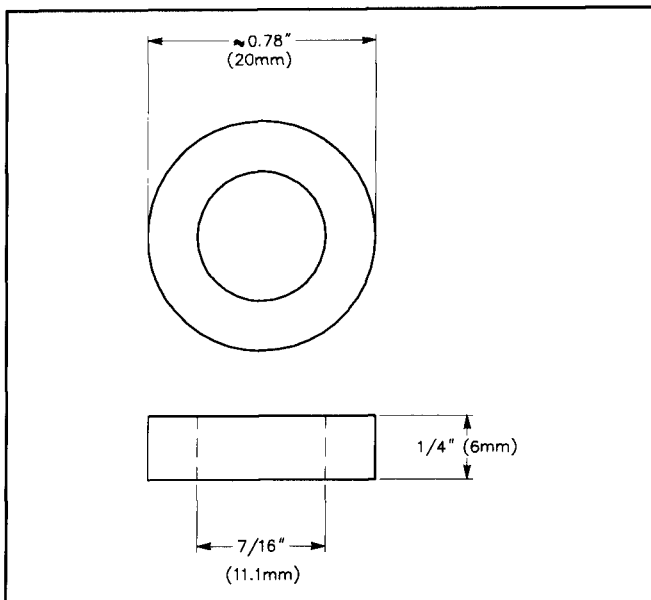

Fig 13—Cathode insulator.
14. Part No. 14 (Fig 13) is a Teflon insulator which holds Part No. 10 concentric inside Part No. 8. It can be held captive inside Part No. 8 by lightly center punching the walls.